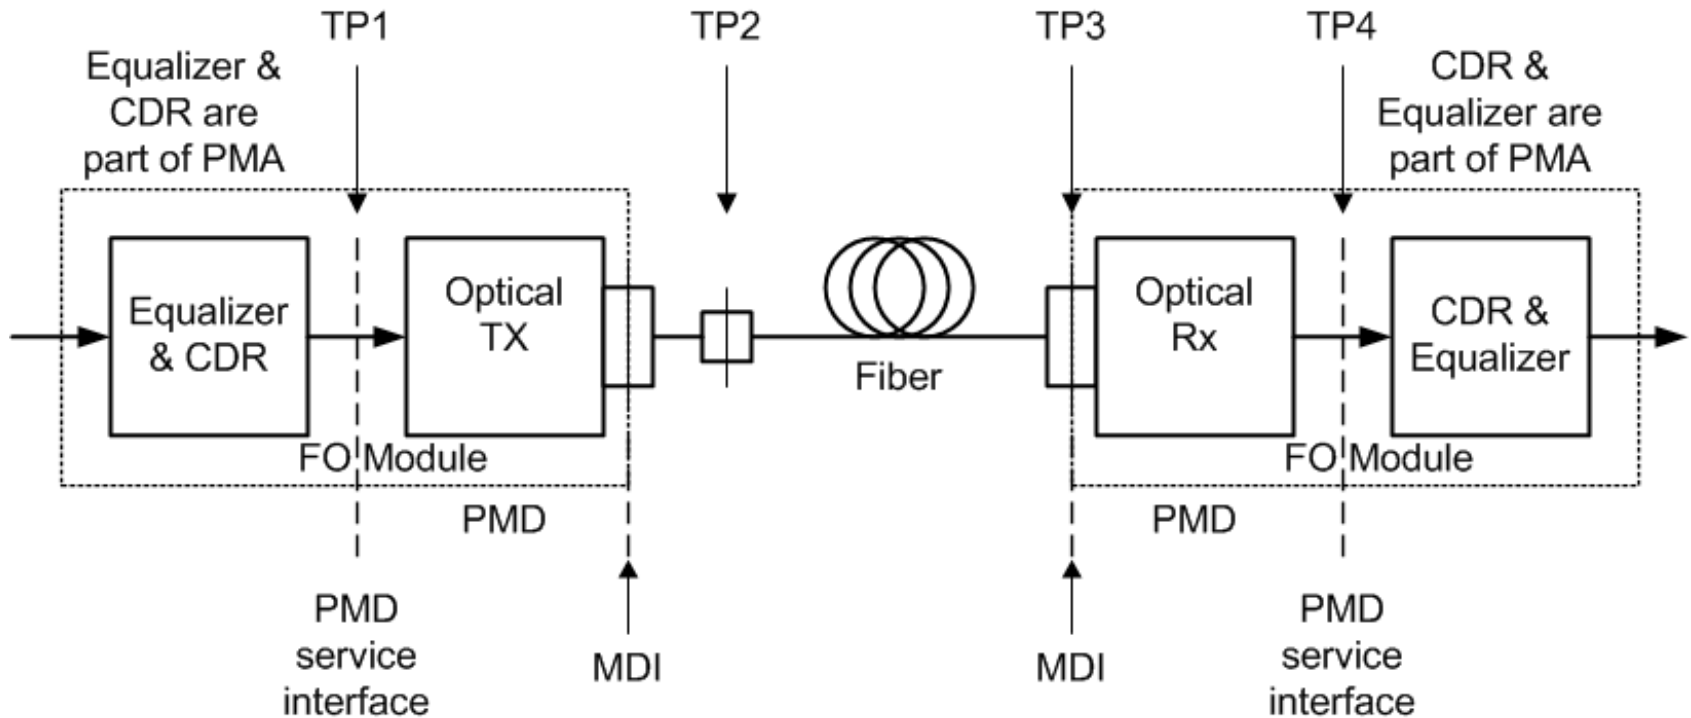

Figure 1
- For cases, as shown above in Figure 1, where retimers are incorporated in the optical module, the PMD service interface is not exposed. TP1 and TP4 remain as points on the PMD service interface and, consequently not exposed.
Nomenclature: Terms TP1, TP2, TP3 and TP4 are used as defined in 802.3 clause 86 and shown in above Figure 1. Note that TP1 is downstream of the input CDR and equalizer for an optical transmitter.